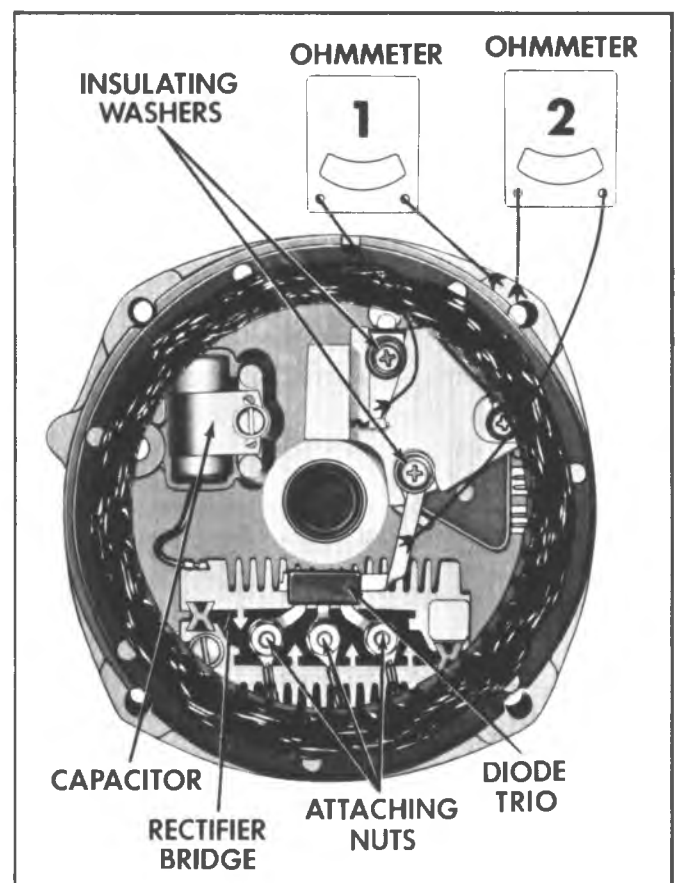

Fig. 7C--Brush Lead Clip Checks
5. Remove screw attaching diode trio to brush holder assembly and remove diode trio from end frame (fig. 7C).
The diode trio may also be checked for a grounded brush lead while still installed in the end frame. Connect an ohmmeter from the brush lead clip to the end frame as shown in Step 2, Figure 7C, then reverse the lead connection. If both readings are zero, check for a grounded brush lead clip caused by omission of the insulating washer, of the insulating sleeve over the screw, or damaged insulating sleeve. Remove the screw to inspect the sleeve. If sleeve or screw are not grounded, replace regulator.
Voltage Reg./Brush Lead Clip Check (fig. 7C)
Connect an ohmmeter from the brush lead clip to the end frame as shown in Step 1, Figure 7C. Then reverse lead connections. If both readings are zero, either the brush lead clip is grounded or the regulator is defective.
Brush Holder and Regulator Replacement (fig. 7C)